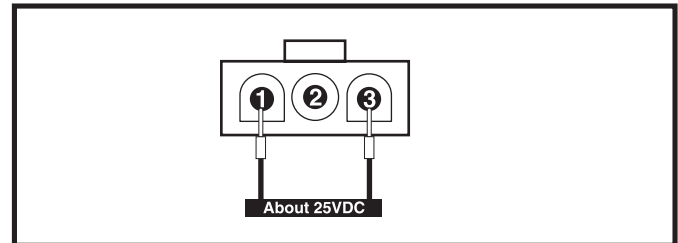

Figure 32. Connector 3b
26. Measure voltage across pin 1 and pin 3 on connector 3b. **See figure 32.**
- If your multimeter indicates 0VDC, then replace the charger/joystick interface harness (3) and retest the system.